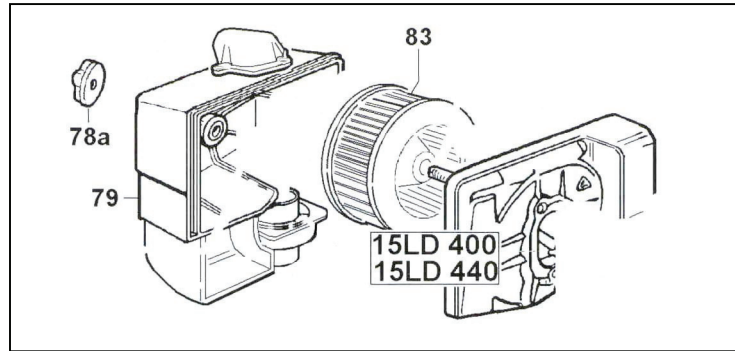

Figure 30
8.7.4 Dry Air Filter Cartridge (figure 30, #83)
The dry air filter (figure 30, #83) consists of a primary filter.
1. Loosen the filter cover knob (figure 30, #78a) to loosen the filter housing cover (figure 30, #79).
2. Remove the filter housing covering (figure 30, #79).
3. Remove the dry air filter (figure 30, #83).
4. Replace the dry air filter (figure 30, #83).